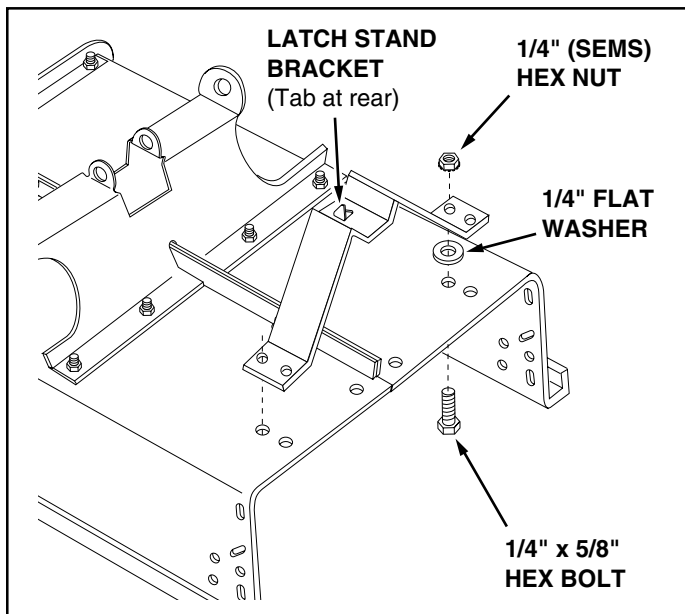

FIGURE 5
12. Align the latch stand bracket so that the tab is at the rear. Fasten the bracket to the rear set of holes at the front of the cart, leaving the front holes empty for now. Use two 1/4" x 5/8" hex bolts, 1/4" flat washers and 1/4" (SEMS) hex nuts. Use the 1/4" flat washers as shims between the bracket and the cart bed. **Make only finger tight** at this time. See figure 5.